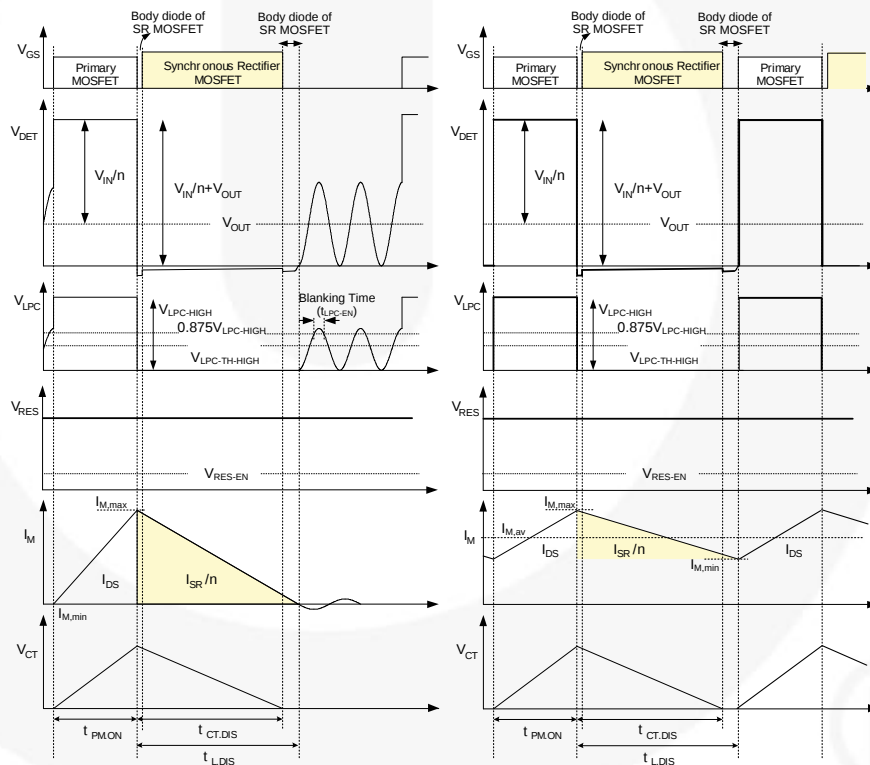

Figure 3. Waveforms of Linear-Predict Timing Controller in CCM, DCM, QR Flyback
FAN6224 senses the DET voltage (V_{DET}) and output voltage (V_{OUT}) with LPC and RES pins, respectively. Therefore, V_{IN}/n , $t_{PM,ON}$, and V_{OUT} can be obtained. As a result, $t_{L,DIS}$, which is the on-time of SR MOSFET, can be predicted by Equation (1). As shown in Figure 3, the SR MOSFET is turned on when the SR MOSFET body diode starts conducting and DET voltage drops to zero. The SR MOSFET is turned off by linear-predict timing control.